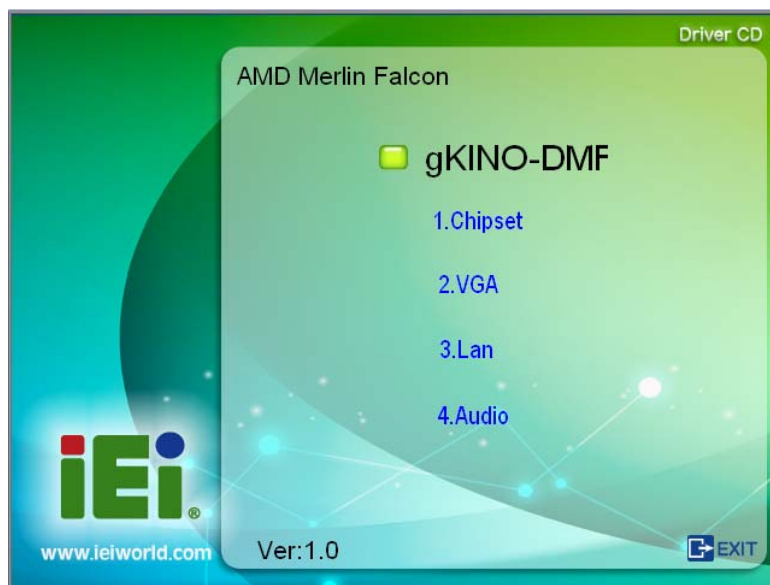

Figure 6-1: Available Drivers
Step 2: The driver main menu with a list of available drivers appears (**Figure 6-1**).